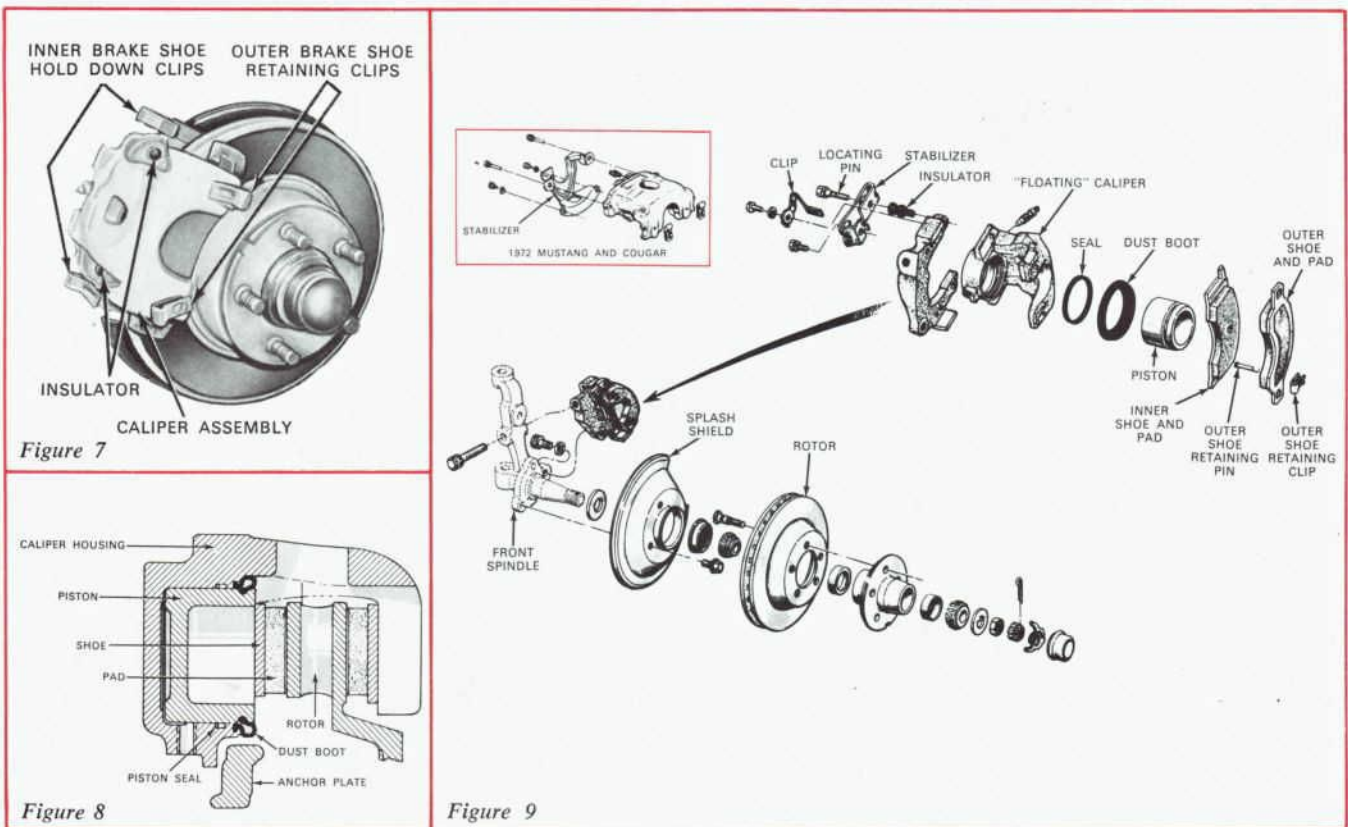

Figure 7—Here is the "floating caliper" type of disc brake in the installed position.
The floating caliper assembly shown in the installed position in Figure 7, has two major sections. They are the caliper housing and an anchor plate. This anchor plate is attached firmly to the wheel spindle arm by two anchor plate bolts as shown in Figure 9. The floating caliper is attached to the anchor plate by two steel stabilizers on 1972 Ford, Mercury and Lincoln Continental models. Mustang and Cougar for 1972 use only one steel stabilizer. See Figure 9A.
3. Remove the inner shoe hold-down clips. See Figure 7.